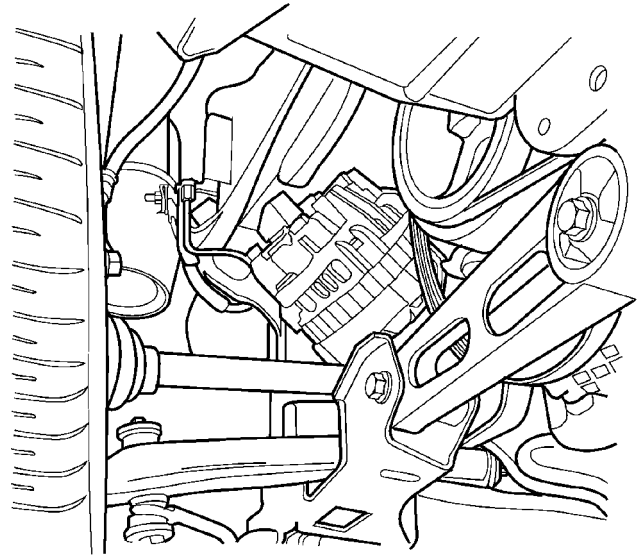

Fig. 6 Generator
- (11) Remove Generator (Fig. 6) through wheel well.